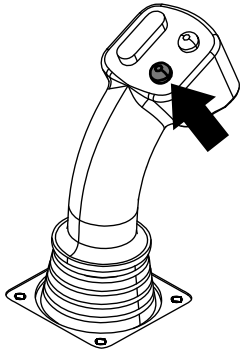
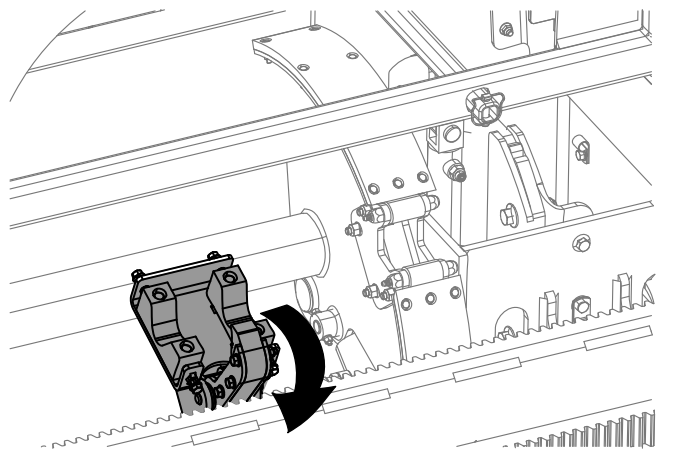

Figure 36
Figure 37
- Hold the lower button on the joystick (Figure 36) to release the pipe (Figure 37) and release the button.